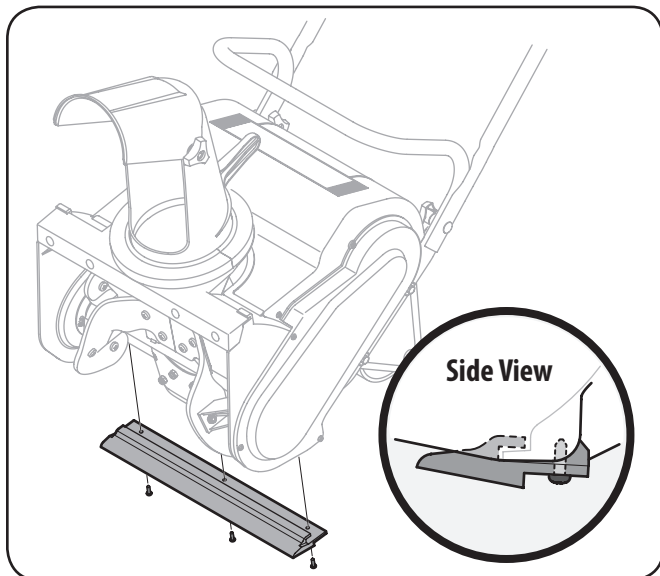

Figure 7-1
1. Remove the three screws securing the skid plate to the auger housing. See Figure 7-1.